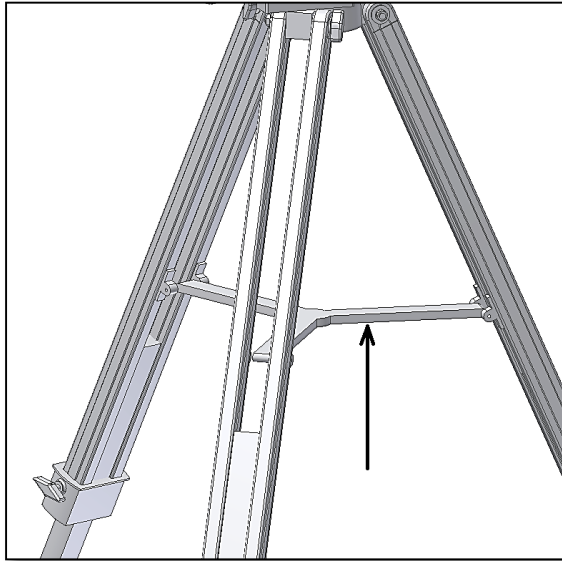
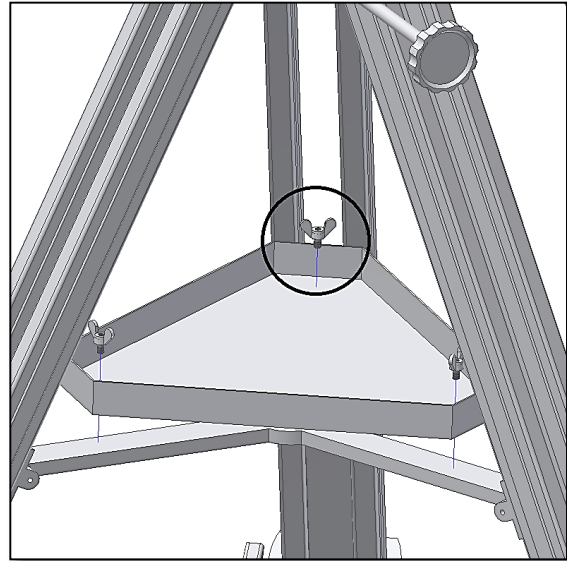
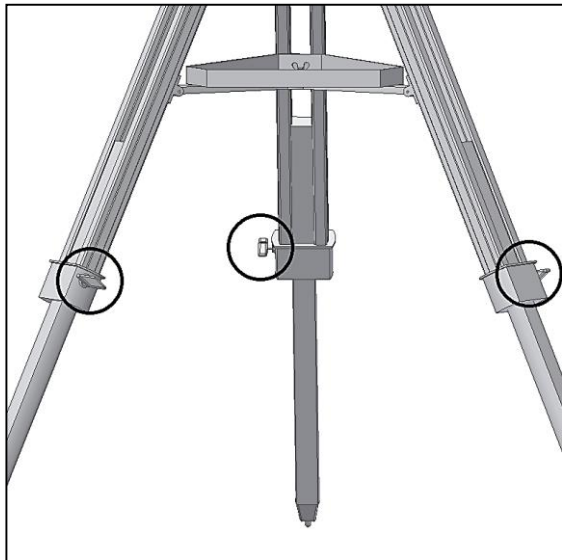
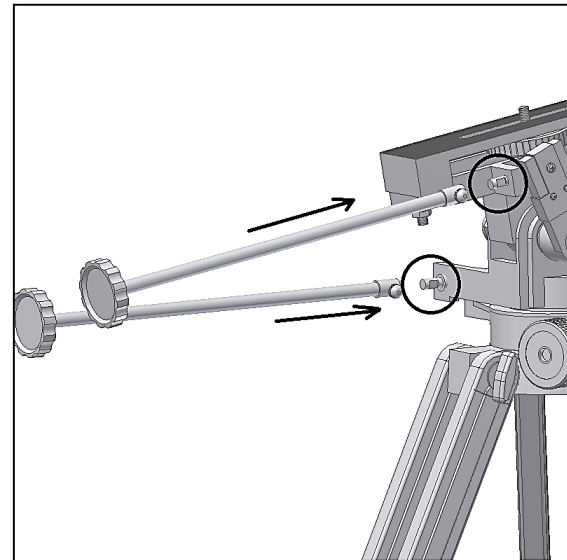

Figure 4. Setting up the central stand.
Figure 5. Place the accessory tray.
Figure 6. Adjust the mount height and fix it.
Figure 7. Place both axis handles.
2. Getting started. Please remove the AZ-3 mount from the supplied cardboard. Set the tripod as shown in figure 4 – set the 3-legged central stand horizontal. Next, place the supplied accessory tray and fasten it securely with the three ear thumbscrews (figure 4). Adjust the mount height by extending the tripod legs. Fix in place by tightening the three tripod fixing knobs (figure 5). Place the two handles in both the azimuth and altitude axis (figure 6). Fix the handles to the mount axis by tightening the two small thumbscrews as shown in figure 7.